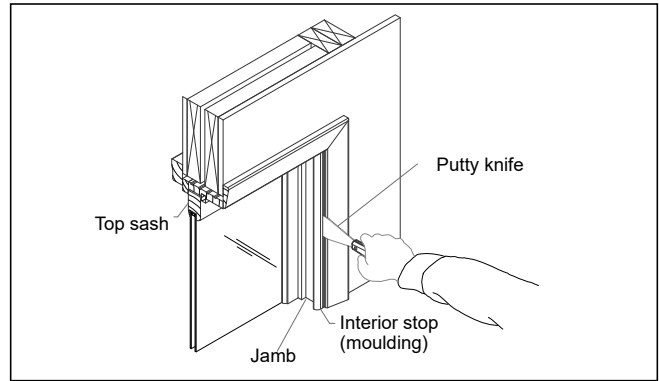

Figure 1
1. Remove the moulding from the side jambs using a putty knife or pry bar. Do not break or damage these pieces as they may be reused. See figure 1.